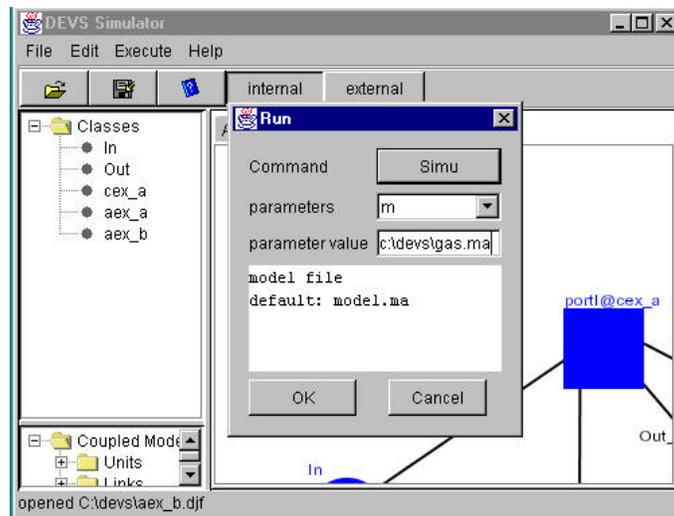

Fig 9
- Select “Execute|Run” from the main menu, a “Run” dialog will be shown as Fig 9.